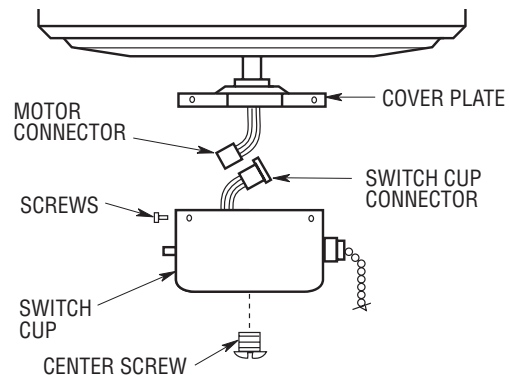

Figure 1
2. Remove the switch cup from the cover plate by removing the three screws around the side of the switch cup (Figure 1).
3. Disconnect the motor connector from the switch cup connector (Figure 1).
4. Remove the center screw from the switch cup (Figure 1).